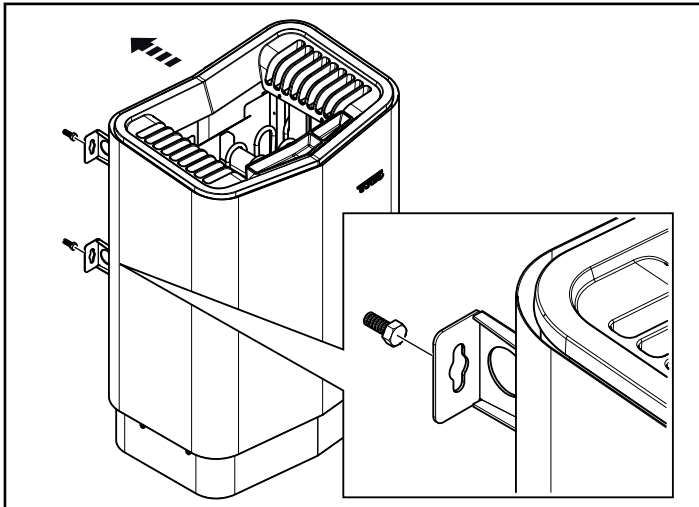

Figure 19: Hang the heater up.
1. Hang the heater on the screws see Fig. 19.